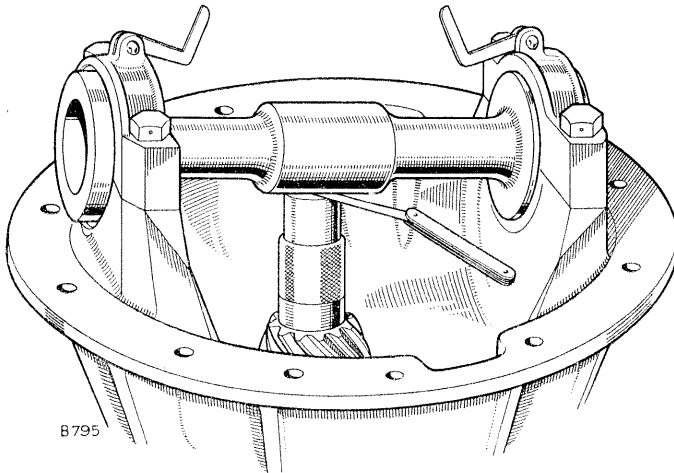

Fig. F-7—Pinion setting
7. Check the dimension from the axis of the crownwheel to the pinion face, using special gauge, Part No. 262761 (Fig. F-7). This dimension should be 3.00 to 3.002 in. (76,2 mm to 76,7 mm).